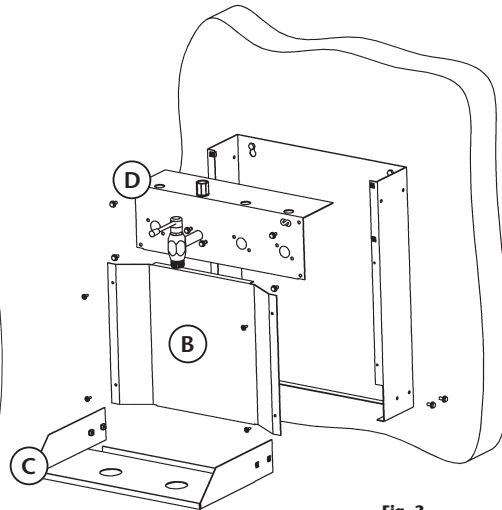

Fig. 2
2. Use the M6 screws supplied to assemble front part (B) followed by the collecting tray (C). Finally place the front cover (D) by using the lag screws. (See figure 2).